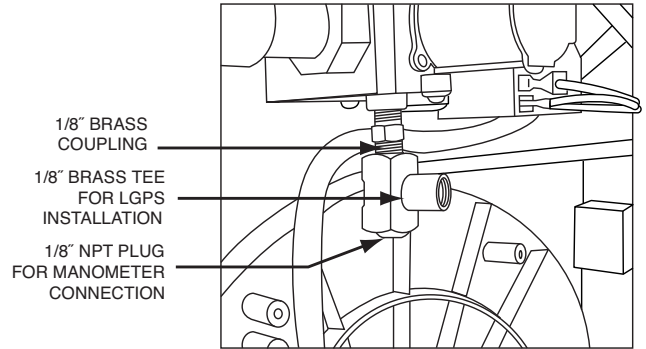
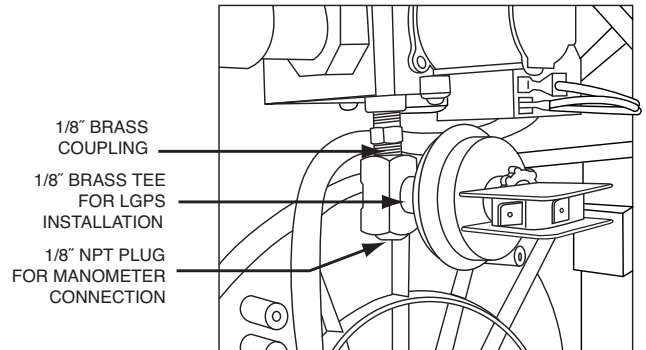

Fig. 9 - Gas Valve Inlet Pressure Trap
Fig. 10 - LGPS Installed
- o. Apply pipe dope sparingly to the ends of the 1/8-in. (7 mm) brass coupling (part CA52JZ103 provided in kit) and install it in 1/8-in. (7 mm) tapped opening in gas valve inlet pressure tap. (See Fig. 9.) Tighten fitting with a small wrench.
- p. Attach the female end of the female x female x male brass tee (part CA21JZ001-provided in kit). Tighten fitting with a small wrench so the male portion of the tee points out from the furnace. (See Fig. 9.)
- q. Apply pipe dope sparingly to male end of brass tee. Install propane low gas pressure switch (part HK02LB008-provided in kit) on nipple. After switch has been finger tightened, use small wrench on base of pressure switch for final tightening. When pressure switch is tight, switch terminals should point as shown in Fig. 9 and Fig. 10 relative to gas valve and clear control door.